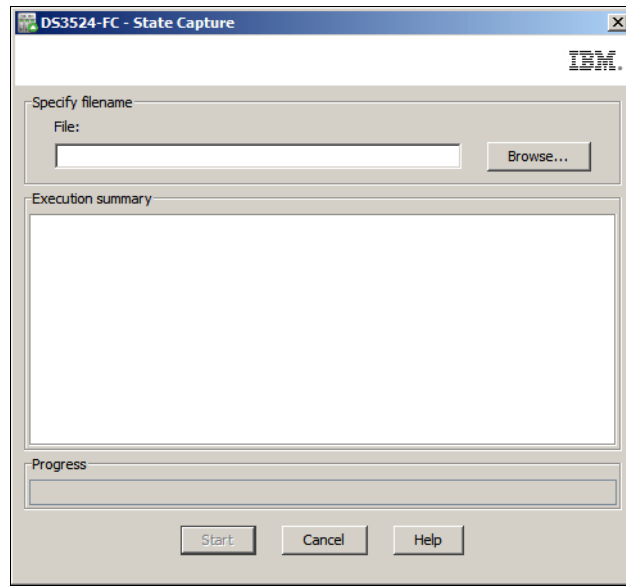

Figure 14-12 State Capture
1. In the DS Storage Manager (Subsystem Management) window, click **Advanced** → **Troubleshooting** → **Capture State Information** to open the **State Capture** window as shown in Figure 14-12 on page 337.